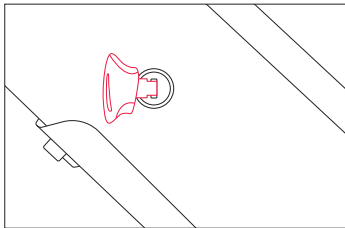
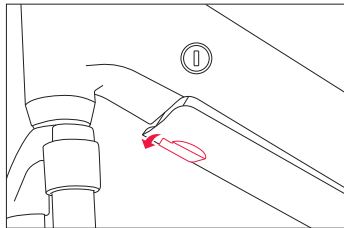

Figure 3
Figure 4
Step 2: Use the key to unlock the battery (fig. 3). While holding the battery with one hand, detach the battery by turning the release switch located on the underside of the frame (fig. 4).